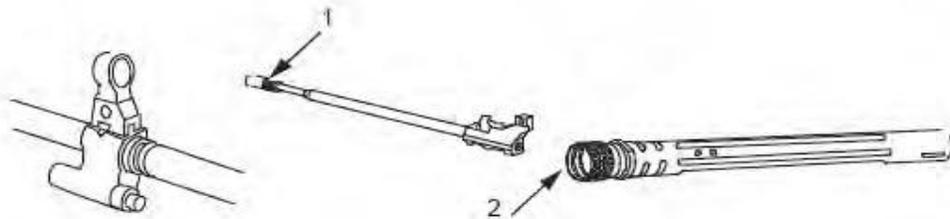

Figure 29. Mono-block Barrel, Gas Cylinder, and Piston Assembly..
2. Insufficient gas pressure. Check for caked carbon on mono-block barrel (Figure 29), and grooves of the piston assembly (Figure 29, Item 1), and internal grooves of the gas cylinder assembly (Figure 29, Item 2). Clean as required.